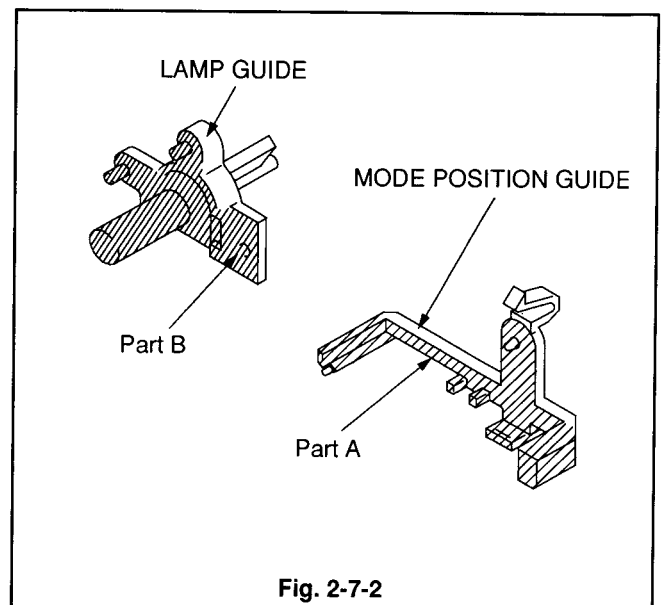

Fig. 2-7-2
- 1 Clean the part A of the MODE POSITION GUIDE shown in Fig. 2-7-2 with the VIDEO HEAD CLEANING CLOTH.
- 3 Clean the part B of the LAMP GUIDE shown in Fig. 2-7-2 with the VIDEO HEAD CLEANING CLOTH.